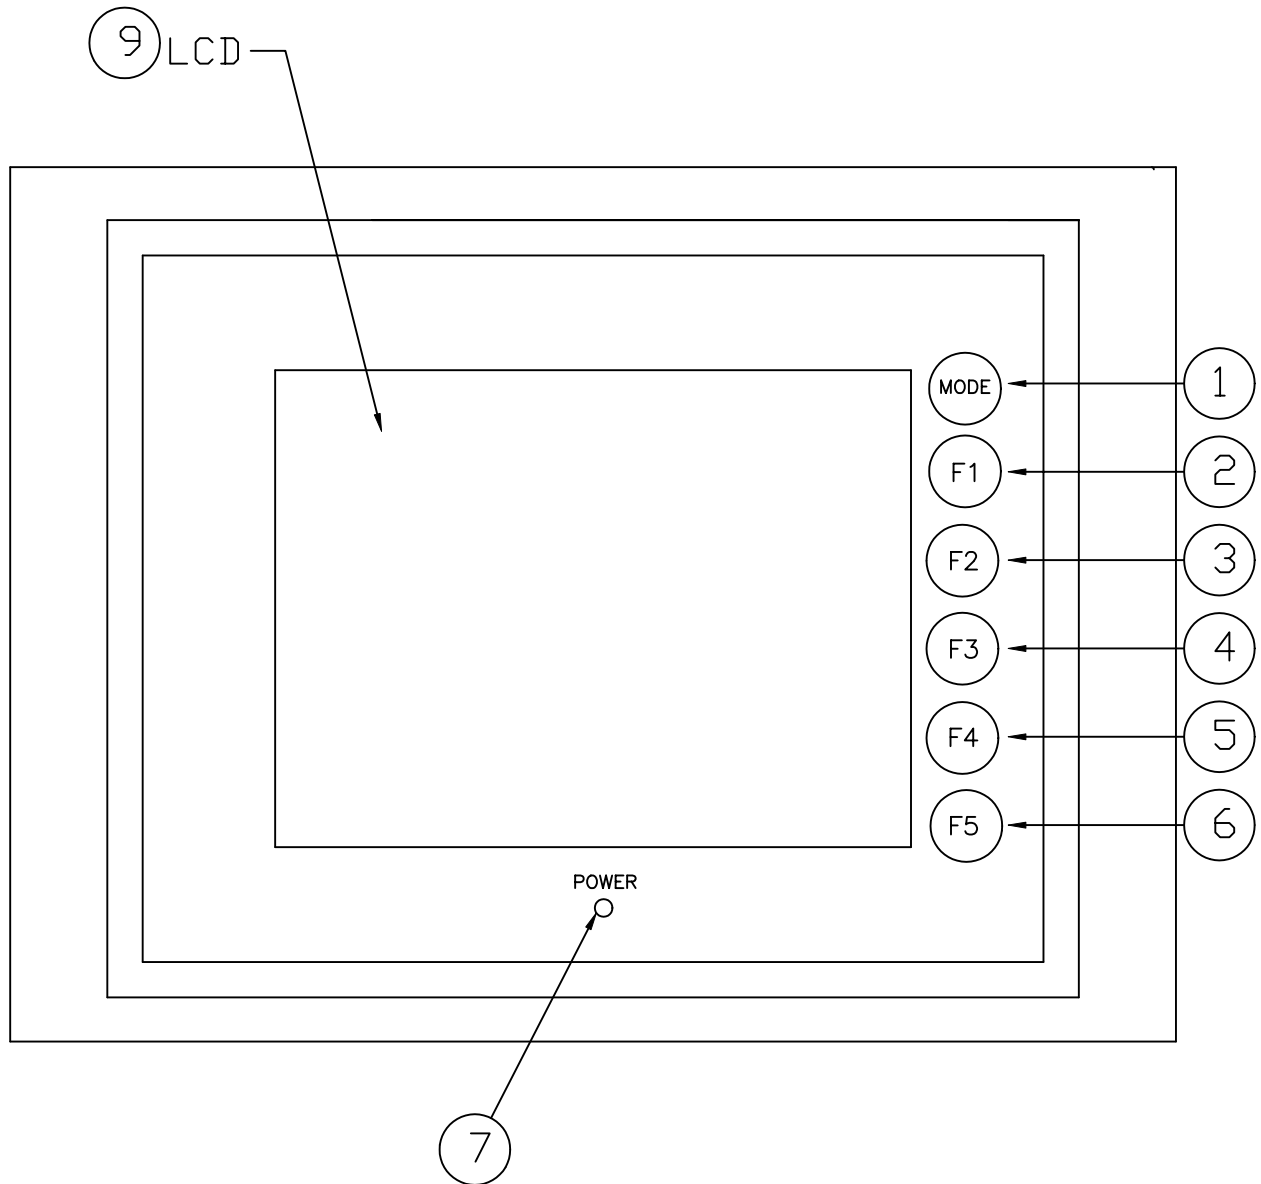

FIGURE 1
3.1 Touch Screen Part Names - Front Panel (See Fig. 1)